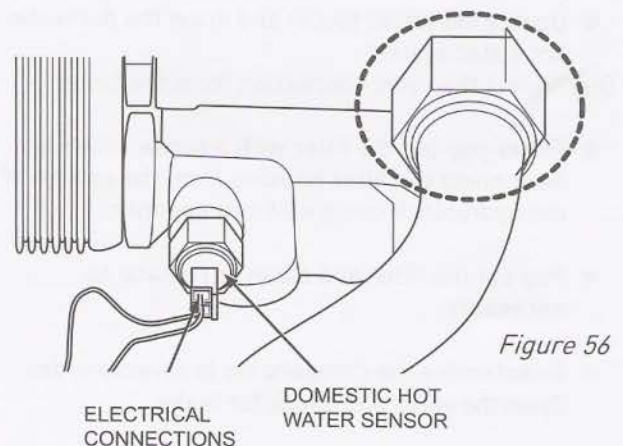

Figure 56
- Release the nut connecting the CH outlet connection to the hydroblock. (Figure 56).